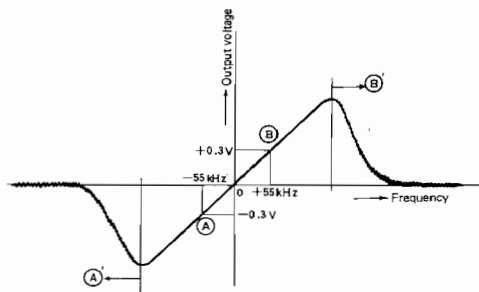

Fig. 6
The output waveform (S curve) of IF discriminator is shown in Fig.6. As shown in Fig.6, the just tune circuit works and makes the indication lamp turn "on" only between (A) and (B).